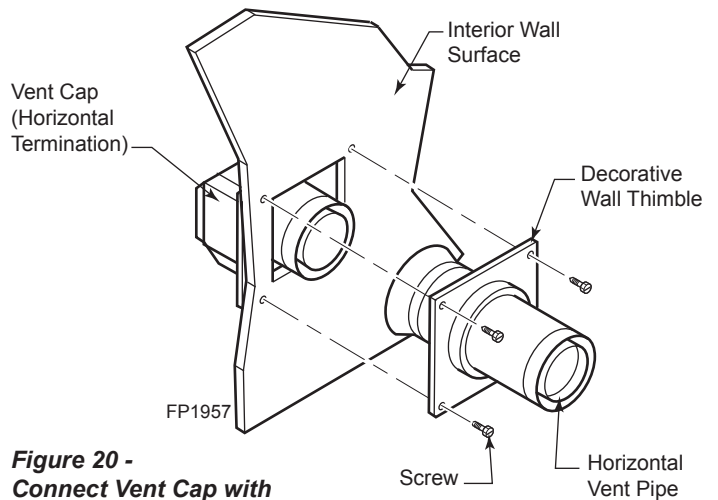

Figure 20 - Connect Vent Cap with Horizontal Vent Pipe
- Slide the wall thimble over the vent pipe before connecting the horizontal run to the vent cap. *Figure 20*
- Slide the wall thimble against the interior wall surface and attach with screws. *Figure 20*